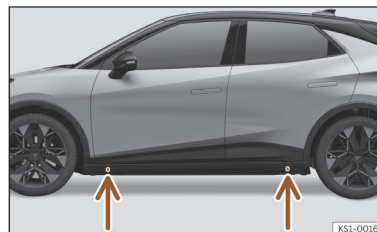

Fig. 205 Jack position points.
- Look on the crossbar for the mark of the jack support point (sunken area) closest to the wheel to be changed >>> **Fig. 205**.